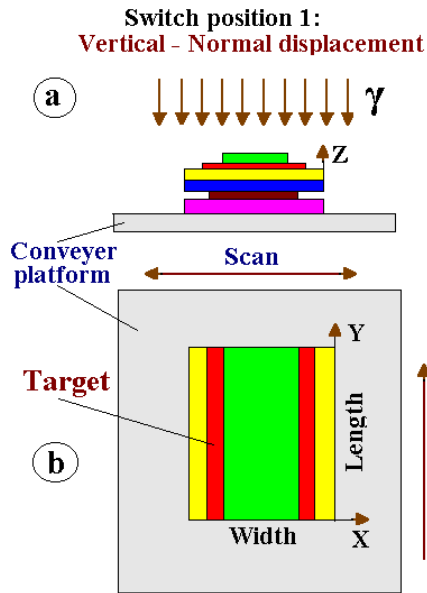

Fig.11.1
- All possible positions of layers orientation on a conveyer platform under **X-ray beam** irradiation and corresponding switch positions are presented in **Figs. 11.1, 11.2, 11.3, 11.4, 11.5, 11.6**.
• **Note.** In any layer positions under **X-ray beam** irradiation, **axis coordinates X, Y, and Z** are hard connected with **width (X), length (Y), and thickness (Z)** of target layers.